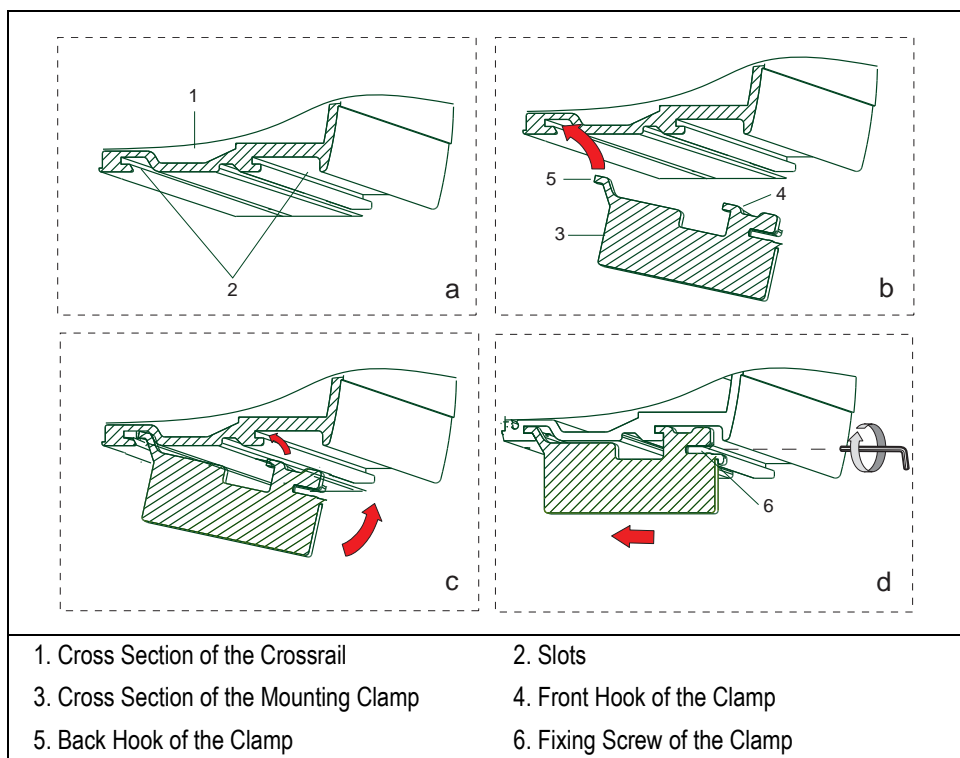

Figure 3-24. Hooking Sequence of the Clamp (1)
Referring to Figure 3-24 proceed as follows:
3. Uplift the crossrail X and place it on the top of the two supports tilting it slightly downwards in a way that the back hook of the clamp, located on the top of the support leg, slips into the proper slot. See **b** of Figure 3-24.
5. Slightly push the crossrail backwards so that the hooks of the clamps perfectly anchor thereto. See **c** and **d** of Figure 3-24.